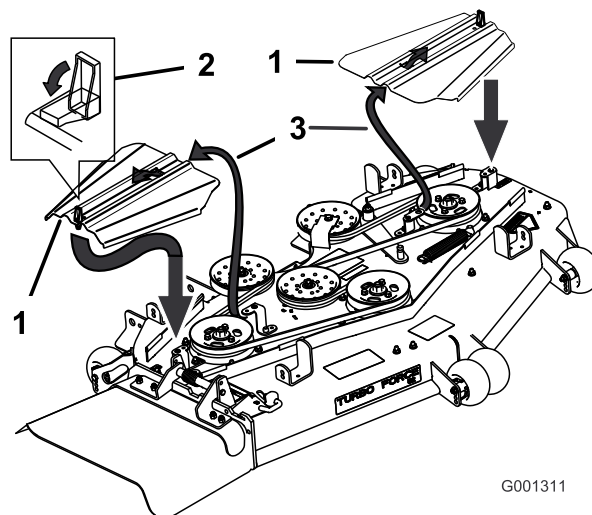
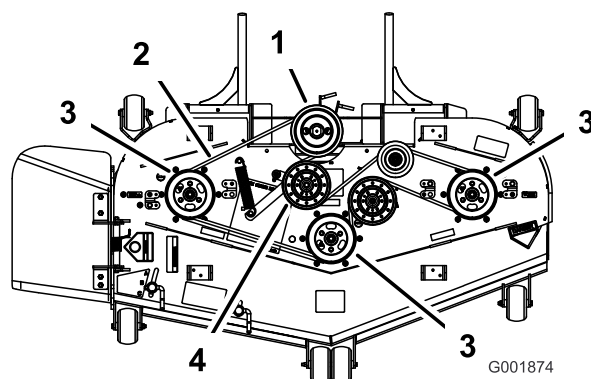
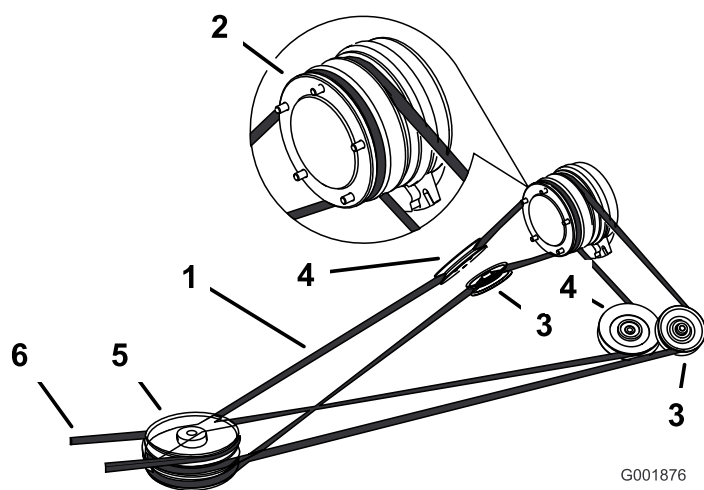

Figure 59
Figure 60
Figure 62
3. Remove the belt covers (Figure 59).
5. Remove the mower belt from the mower pulleys and the top pulley of the three stacked pulleys (Figure 59 and Figure 60).
6. Install the new belt around the mower pulleys and the top pulley of the three stacked pulleys (Figure 59 and Figure 60).
7. Pull on the spring loaded idler arm to loosen the belt tension and align the mower belt onto the idler pulley (Figure 60).
8. Install the belt covers and close the latches (Figure 59).
4. Pull on the spring loaded idler pulley to loosen the belt tension (Figure 62).
5. Remove the mower belt from the top pulley of the three stacked pulleys (Figure 60 and Figure 62).
7. Install the new drive belt around the clutch pulley, the adjustable idler pulleys, the spring loaded idler pulley, and the front three stacked pulleys (Figure 62).
9. Install the mower belt around the mower pulleys and the top pulley of the three stacked pulleys (Figure 60 and Figure 62).